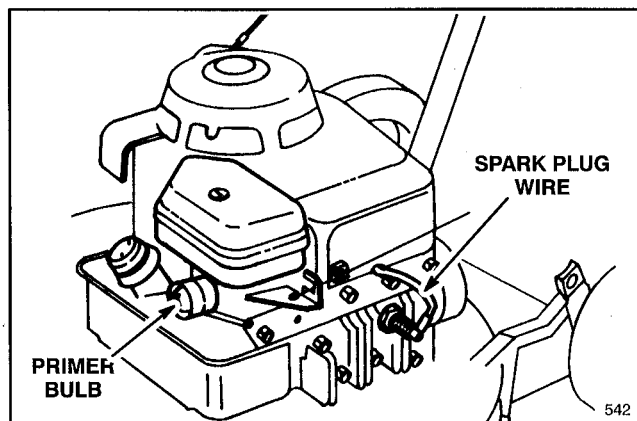

Figure 8
2. Push wire onto spark plug (Fig. 8).
4. Push primer bulb (Fig. 8) three times to start.